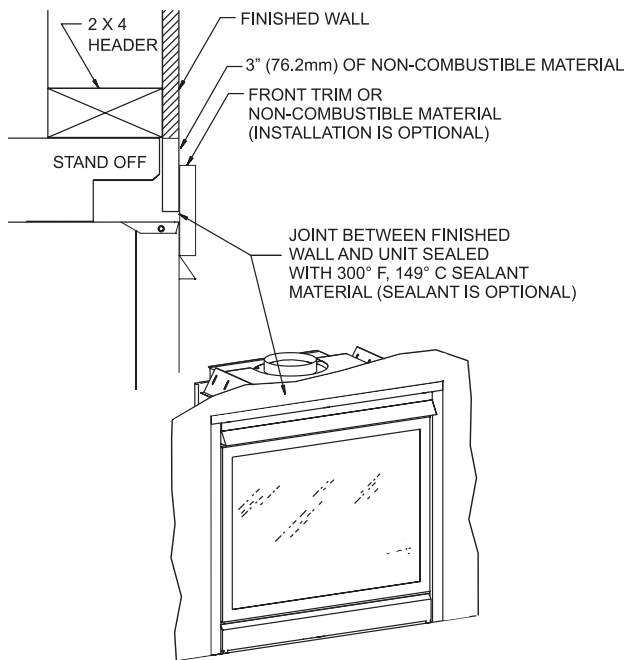

Figure 15
**Note:** For finishing to top of fireplace, refer to **Figure 15**.